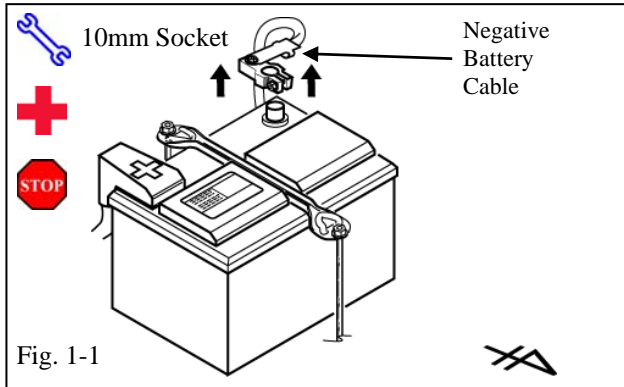

Fig. 1-1
- (b) Remove the Negative Battery Cable. (Fig. 1-1)
- (1) Protect the Fender before starting.
- (2) Note the Battery Cable position, as it will be re-installed in the same position.